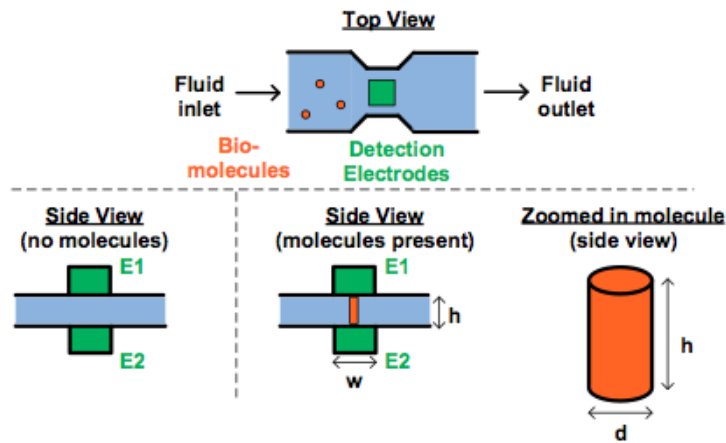

Figure 1: Bio-molecule detector.
As shown in Figure 1, the detector works by flowing a liquid that may or may not contain the biomolecules through a region in the device that has electrodes on the top and bottom of the liquid channel. The electrodes (E1/E2 in Figure 1) are chemically “functionalized” (using e.g. some appropriately designed antibodies), so that if the specific bio-molecule of interest is present in the fluid sample, one or more of the molecules will get physically trapped between the two electrodes (bottom right of Figure 1). After all of the fluid has been
- Let's first assume that we want to detect the presence of a bio-molecule by measuring resistance. If no bio-molecule is present, what should be the resistance between E1/E2? As shown in Figure 1, if each bio-molecule is a cylinder with diameter  $d = 10\text{nm}$ , height  $h = 100\text{nm}$ , and has a resistivity  $\rho = 100\mu\Omega\text{m}$ , what would be the resistance between E1 and E2 if only a single bio-molecule has been trapped? Note that you can assume that the trapped molecule is exactly vertically oriented when it is trapped – i.e., the top and bottom faces of the molecule are both aligned with surfaces of the electrodes.